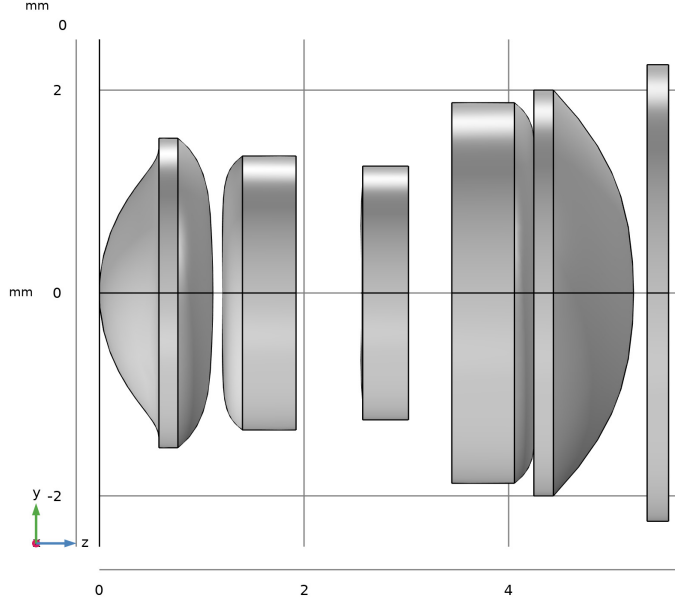
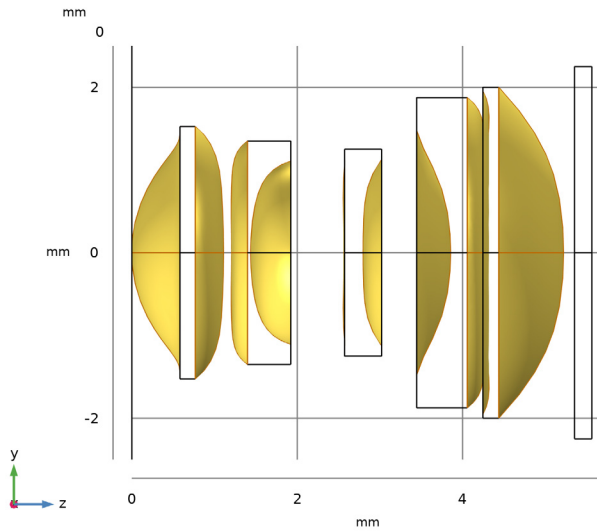
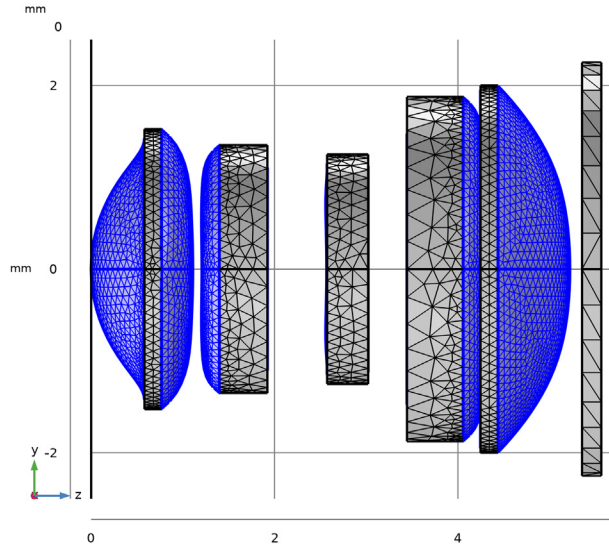
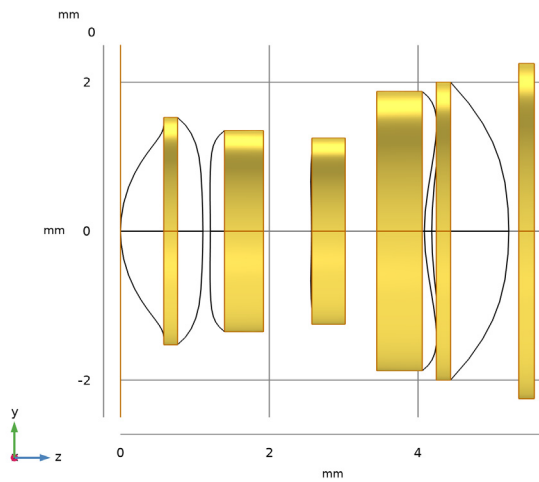

Figure 2: The Compact Camera Module geometry sequence. Instructions for creating the lens geometry can be found in the Appendix.
Figure 3: The Compact Camera Module aspheric surface cumulative selection.
Figure 4: The Compact Camera Module mesh. This view shows the aspheric surfaces on which the mesh has been refined.
Figure 5: The Compact Camera Module obstruction cumulative selection.
The detailed optical prescription is given in Table 1. Instructions for creating the lens geometry sequence (Figure 2) can be found in the Appendix — Geometry Instructions. In addition to the parameters used to define the Compact Camera Module geometry, a set of parameters are required to define the ray tracing model. These are listed in Table 2.
The ray tracing algorithm used by the Geometrical Optics interface computes the refracted ray direction based on a discretized geometry via the underlying finite element mesh. In this model, a cubic geometry shape order is used in order to reduce the discretization error. However, it is sometimes necessary to refine the mesh on certain surfaces in order to further reduce the effects of discretization. The aspheric surfaces of the Compact Camera Module have been assigned to a cumulative selection (Figure 3) on which the mesh has been refined (Figure 4).¹
The Compact Camera Module is assumed to be operating in air at room temperature. The wavelength is set to $\lambda = 587.56 \text{ nm}$ as this is the wavelength at which the refractive indices are specified. Other Geometrical Optics features include the use of cumulative selections to define obstructions (see Figure 5) and the focal surface. A hexapolar grid release is used to launch rays at each of the four field angles. Each release has 25 rings, giving a total of 1951 rays per field angle. Detailed instructions for creating this model can be found in Modeling Instructions.
- 8 In the **Graphics** window toolbar, click  next to  **Go to Default View**, then choose **Go to ZY View**. Orient the view to place the optical axis (z -axis) horizontal and the y -axis vertical. Compare the resulting geometry to Figure 2. The **Cumulative Selections** defining the aspheric surfaces and obstructions can be seen in Figure 3 and Figure 5 respectively.